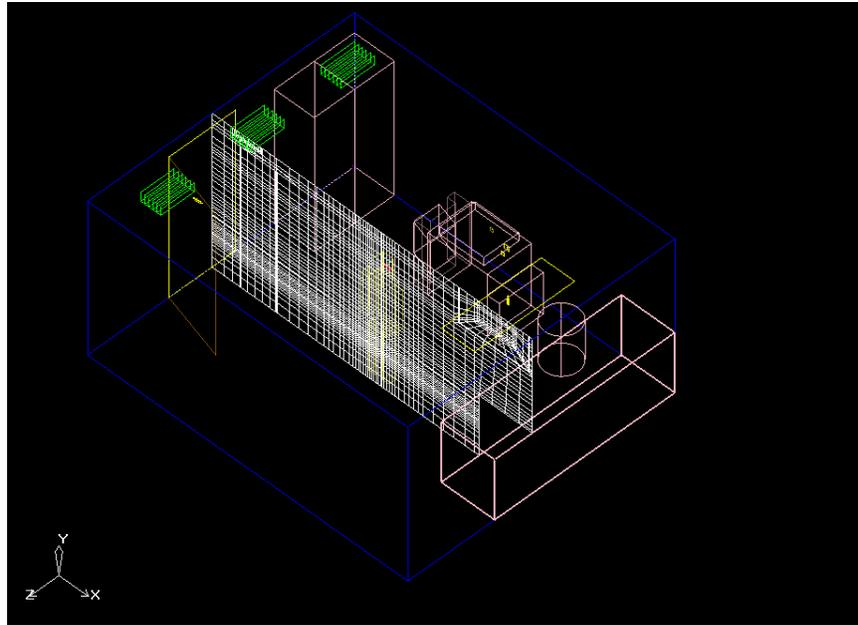

Figure 3.9: Fine Mesh on the  $x$ - $y$  Plane
*The graphics display will be updated automatically to show the new mesh (Figure 3.9). You can use the two boxes in the Display section of the Mesh control panel to advance the plane cut and view the mesh throughout the model.*